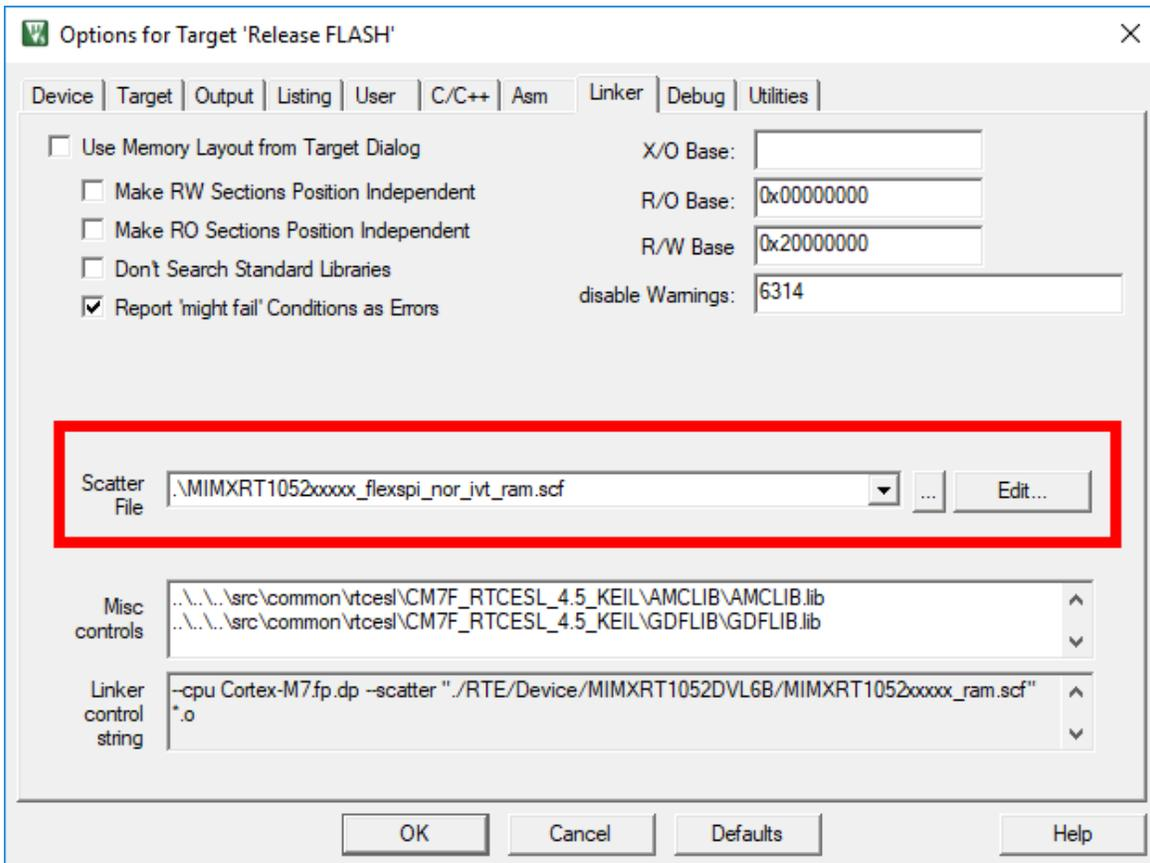

Figure 26. Keil linker settings
- Change the linker file path. Go to the “Project->Options for Target->Linker” tab. Find the “Scatter file” text box. Change its value to “.\\MIMXRT1052xxxx_flexspi_nor_ivt_ram.scf” (see Figure 26).
- To pause the running application, press the “Pause” button (Point 2 in Figure 26).
- To run the application, press the “Run” button (Point 1 in Figure 26).